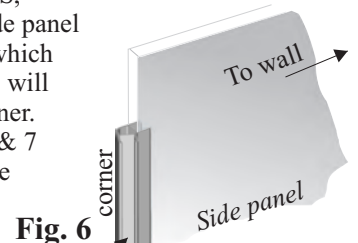

Fig. 6
4.1 On the large glass side panel there is a corner seal into which one of the door side panels will be inserted to form the corner. Using the detail in Figs. 6 & 7 determine the bottom of the large side panel and fit the bottom seal as shown.